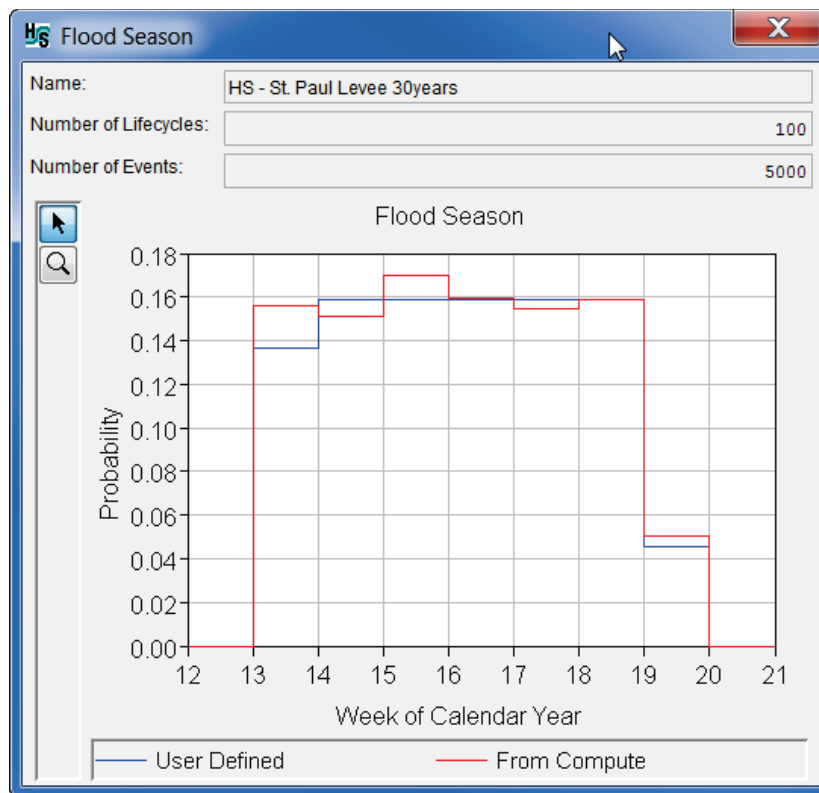
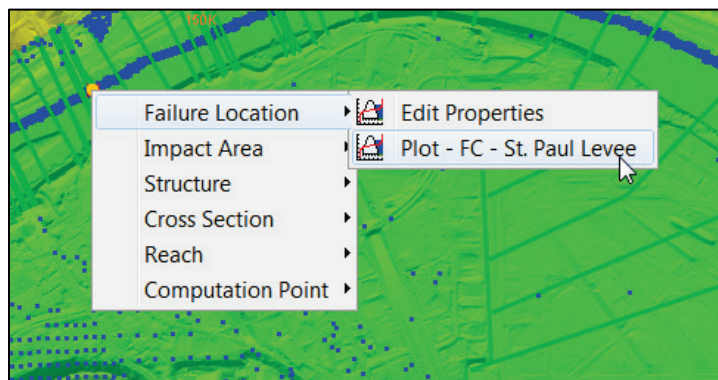

**Figure 21.16** Hydrographs Dialog Box
**Figure 21.24** Content Pane - Shortcut Menu – Results – Hydrologic Sampling
**Plot Hydrograph**, the **Hydrographs** dialog box will open (Figure 21.16). The initial hydrograph displayed is based on the selections (realization, life cycle, and event) made in the **Select Event Results** dialog box (Figure 21.9). The user can view other hydrographs by selecting items in the lists (**Realization**, **Lifecycle**, **Event**, and **Location**).
Using the **Zoom Tool**,  (Figure 21.16) the user can zoom in on areas of interest in the plot. The user can modify the plot by right-clicking on areas in the plot, from the shortcut menus various items could be modified - the axes title, the title of the plot, the viewport, axis ticks, the curve, and many other things. For further information on manipulating the plots, refer to Appendix M of this User's Manual, and HEC-DSSVue User's Manual.
Once a simulation has been computed, the user can review the same FRA results that are available from the **Results** menu from the **Content Pane**. From the **Content Pane**, right-click on one of the available model alternatives, from the shortcut menu (Figure 21.24), point to **Results**, click on the results that are available.
For example, in Figure 21.24, from the **Content Pane**, right-click on the hydrologic sampling *St. Paul Levee 30years* alternative, point to **Results**. The submenu provides a list of available hydrologic sampling results from which the user can select. For example, point to **Results**, click **Plot Hydrograph**, the **Hydrographs** dialog box will open (Figure 21.16). Section 21.5.4 provides details on the available hydrological sampling results.